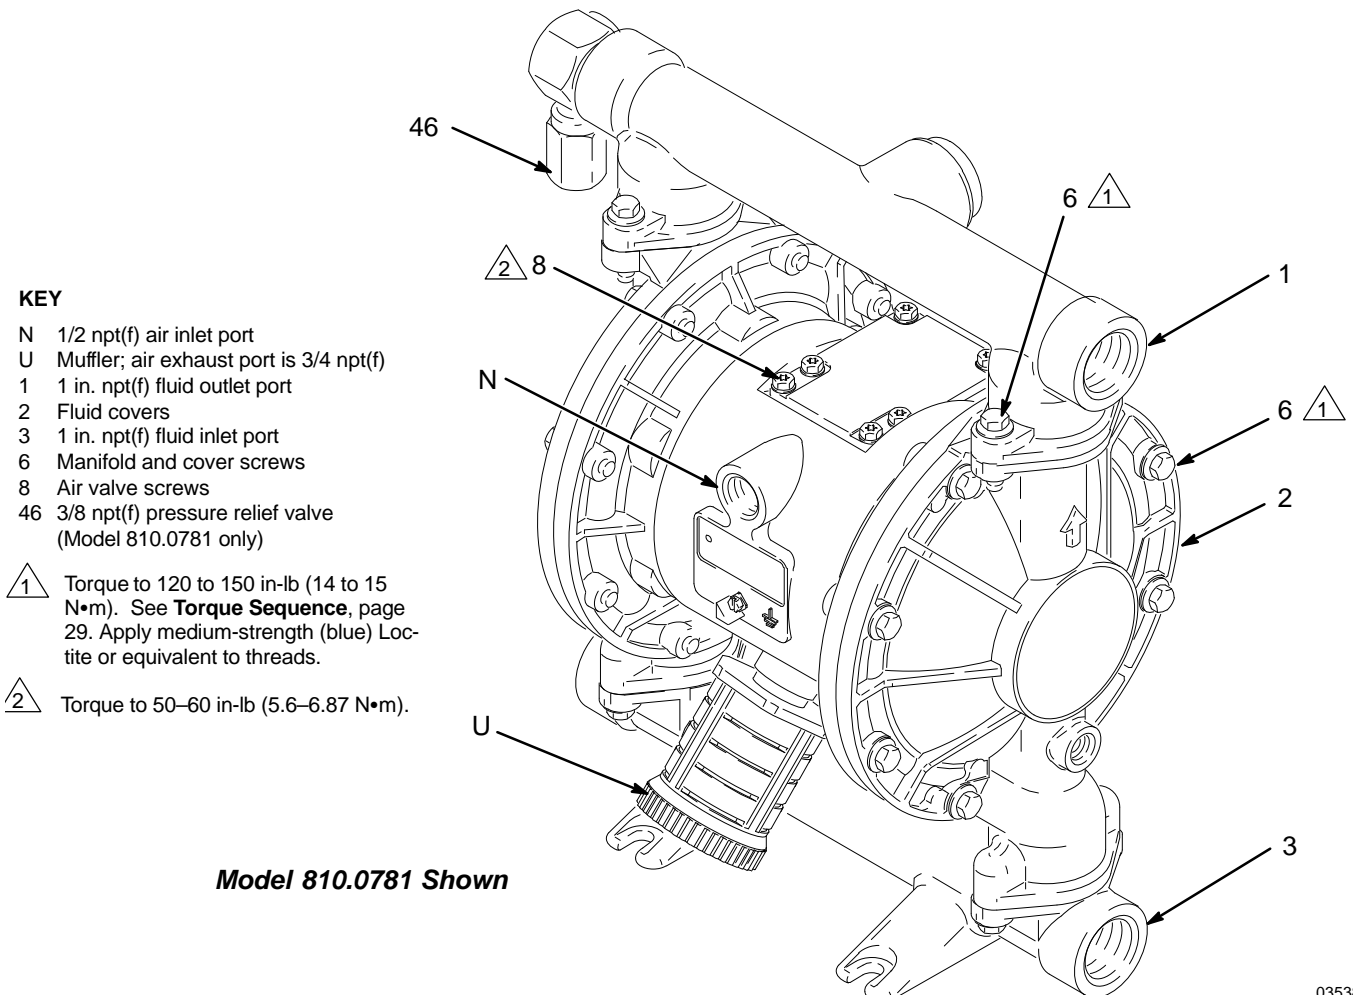

Fig. 5
- a. Install an air regulator (C) and gauge to control the fluid pressure. The fluid outlet pressure at stall will be the same as the setting of the air regulator.
- b. Locate one bleed-type master air valve (B) close to the pump and use it to relieve trapped air. See the **WARNING** above. Locate the other master air valve (E) upstream from all air line accessories and use it to isolate them during cleaning and repair.
- c. The air line filter (F) removes harmful dirt and moisture from the compressed air supply.
2. Install a grounded, flexible air hose (A) between the accessories and the 1/2 npt(f) pump air inlet (N). See Fig. 5. Use a minimum 1/2 in. (13 mm) ID air hose. Screw an air line quick disconnect coupler (D) onto the end of the air hose (A), and screw the mating fitting into the pump air inlet snugly. Do not connect the coupler (D) to the fitting until you are ready to operate the pump.
If desired, you can easily change the orientation of the fluid inlet and outlet ports. See Fig. 5.
The pump fluid inlet (3) is 1 in. npt(f). See Fig. 5. Screw the fluid fitting into the pump inlet securely.
1. **Use only electrically conductive fluid hoses (L).** The pump fluid outlet (1) is 1 in. npt(f). See Fig. 5. Screw the fluid fitting into the pump outlet securely.